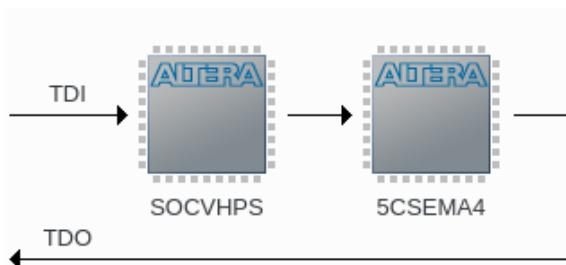

Figure 9-21. JTAG Scan Chain
You should now see 2 devices on the JTAG scan chain, as shown in Figure 9-21.
43. Right-click on the “5CSEMA4” device shown in Figure 9-21 and choose “Edit > Change File”. Then, select “DE0_Nano_SoC_demo/hw/quartus/output_files/DE0_Nano_SoC_demo.sof” through the file browser.